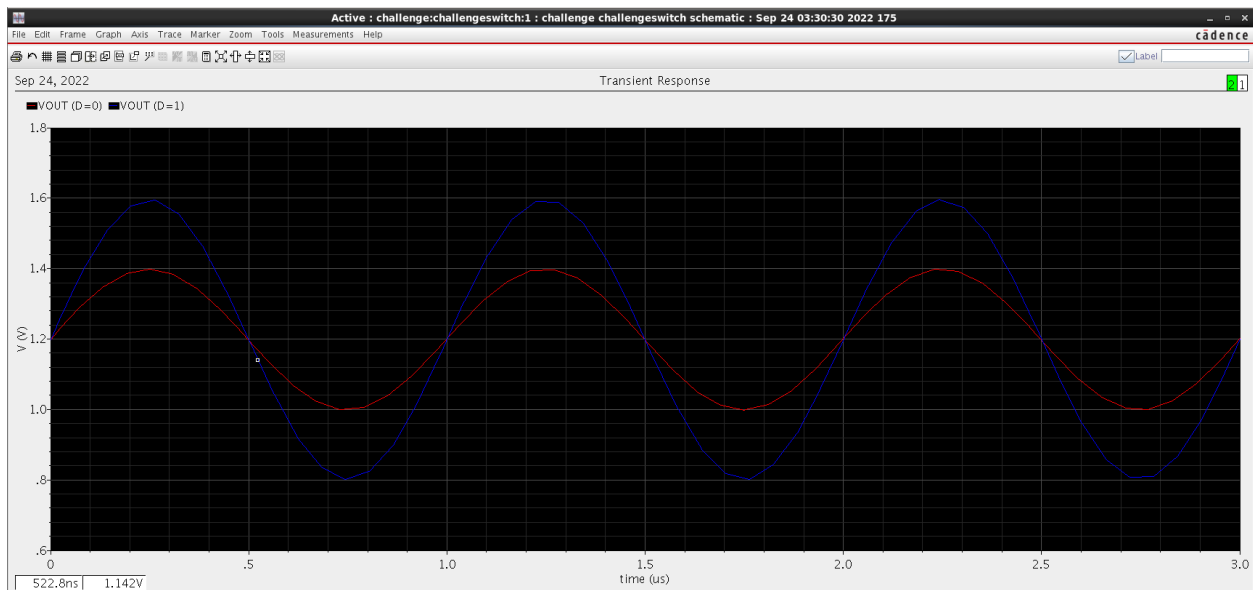

Figure 4.1
- I plotted the transient signals at VOUT as shown in figure 4.1.